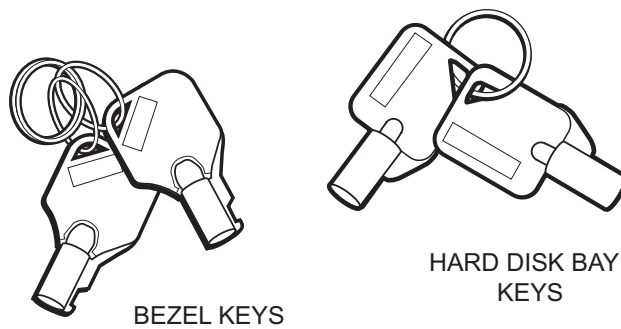
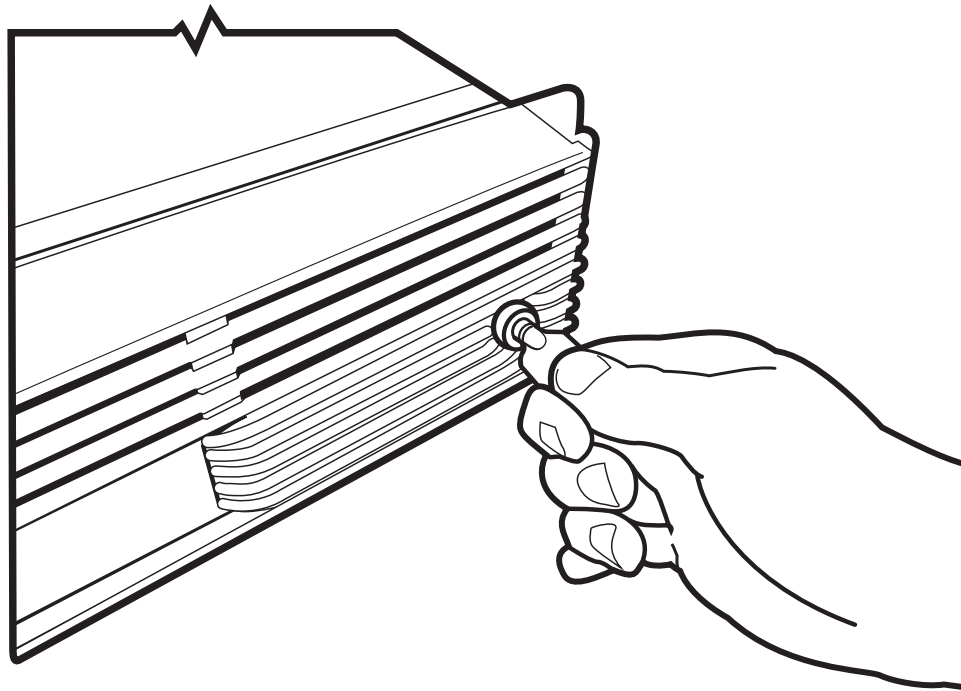
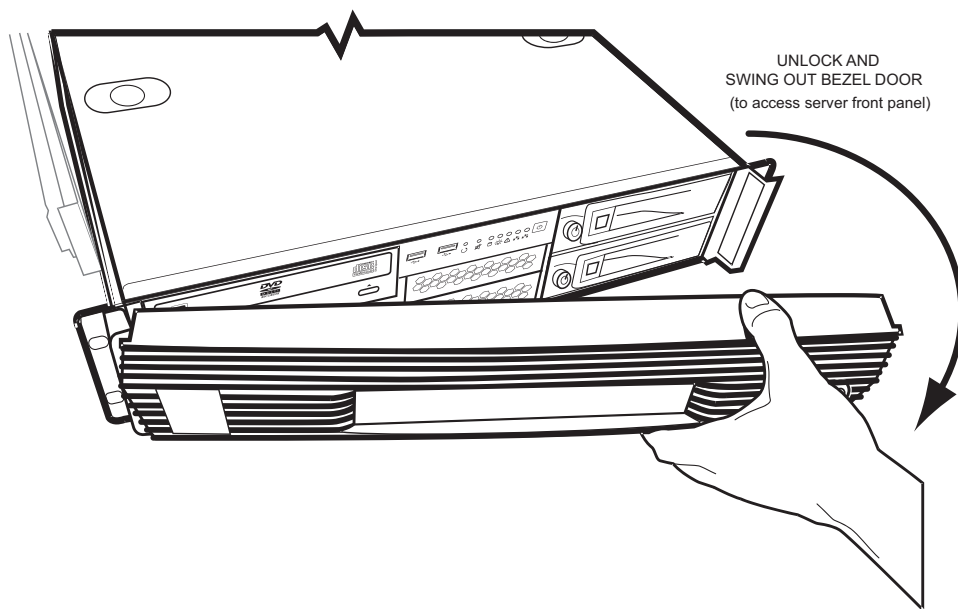

Figure 2.10 Bezel and Hard Disk Keys
Figure 2.12 Unlocking the Front Bezel of the TMP800-CTRL
Figure 2.13 Opening the Front Bezel to Access the Hard Disks of the TMP800-CTRL
1. Using the bezel key, unlock and remove the TMP800-CTRL front bezel. See figure 2.10 on page 17, figure 2.12 on page 18, and figure 2.13 on page 18.